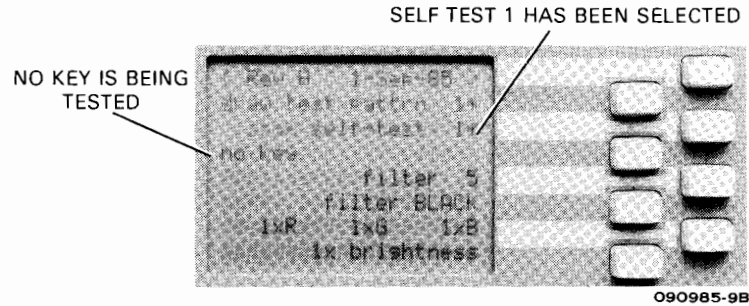

Figure 5-6. Display of Keyboard Test.
- c. Select SERVICE menu. Push "exec self-test *" key and select test number 1. Push ENTER to start testing. Display of test number 1 is shown in figure 5-6.